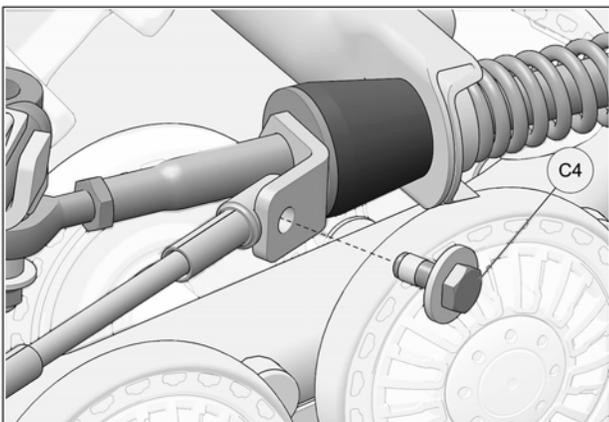

Fig. 29
16. Reverse steering wheel a little to be able to bolt support plate and cable together. Tighten provided bolt (C4) to 35 N•m [24 lb•ft]. See Fig. 29. Repeat steps on right side.